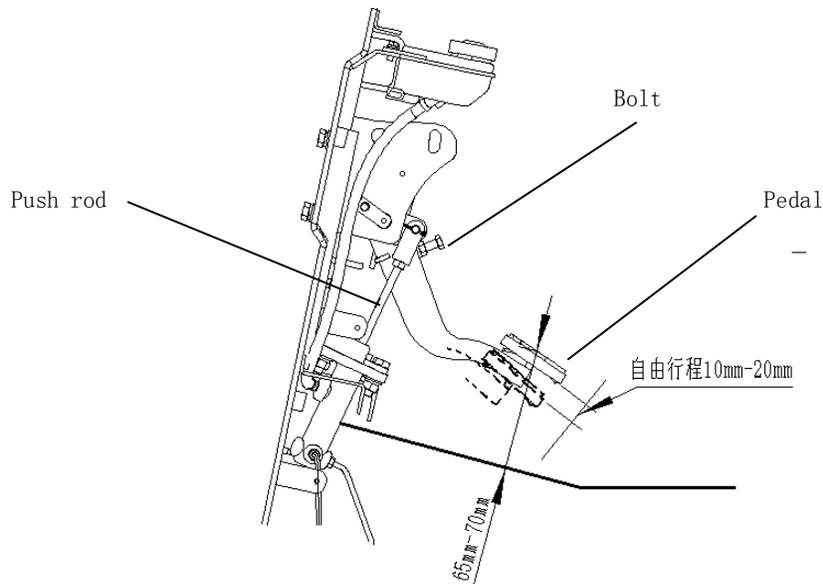

figure 2-31
2.7 Adjusting for Brake pedal See figure 2-31(a)
(1) Shorting handspike
(2) Adjusting limit screw of pedal to make optimum height of pedal. See figure 2-31;
(3) Stretch handspike until the front end of handspike touch the piston ,then, unthread for 1 or 2 circle to make the free journey among 10mm-20mm.
(4) Tighten handspike nut and limit nut of pedal